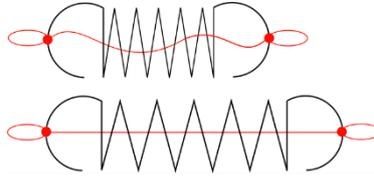

Figure 21: Limiting the elongation of a spring by guiding a rope with the desired maximum spring length inside the spring and fixing it on both ends.
8. Limit the elongation of the spring (3.37) as shown in Figure 21. The elongated spring must be shorter than the total height of the counterweight.